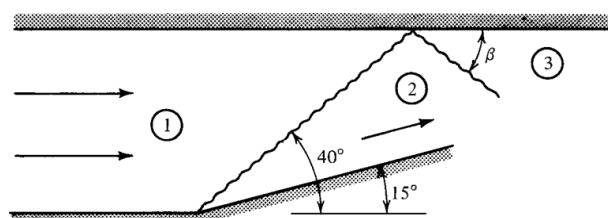

Figure P7.16
- 7.16** Carbon monoxide flows in the duct shown in Figure P7.16. The first shock, which turns the flow 15°, is observed to form at a 40° angle. The flow is known to be supersonic in regions 1 and 2 and subsonic in region 3.